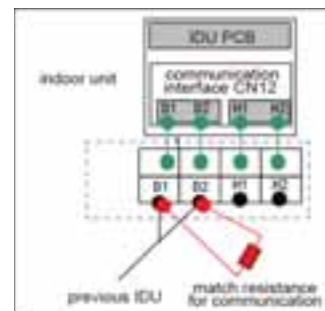

Fig 5.3.2
- (4) Secure the communication cable with clamp of electric box.
- (5) For more reliable communication, connect the terminal resistor to the most downstream IDU of the communication bus (terminal D1 and D2), as shown in Fig. 5.3.2, a terminal resistor is provided with each ODU.